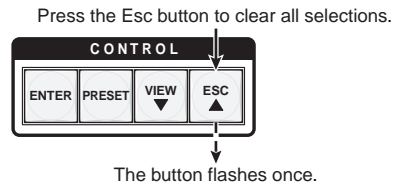

Figure 3-47 — Clear all selections
1. Press and release the Esc button (figure 3-47).